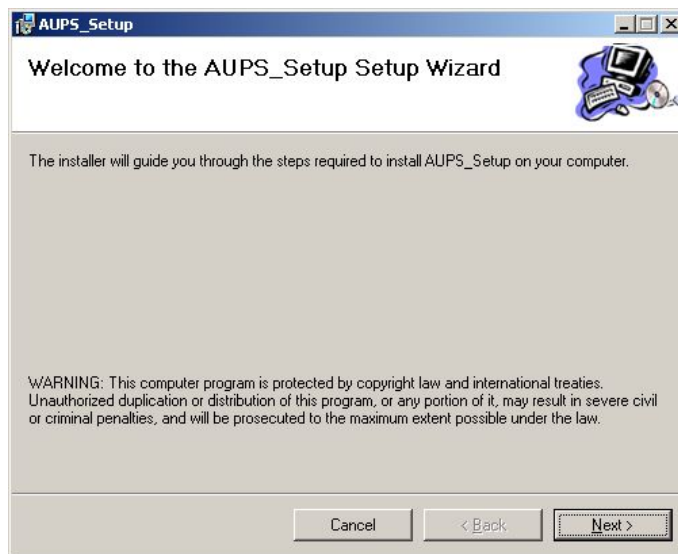

Figure 8-1: Welcome Screen
Step 2: A welcome screen appears (**Figure 8-1**). To continue the installation process click **NEXT**.